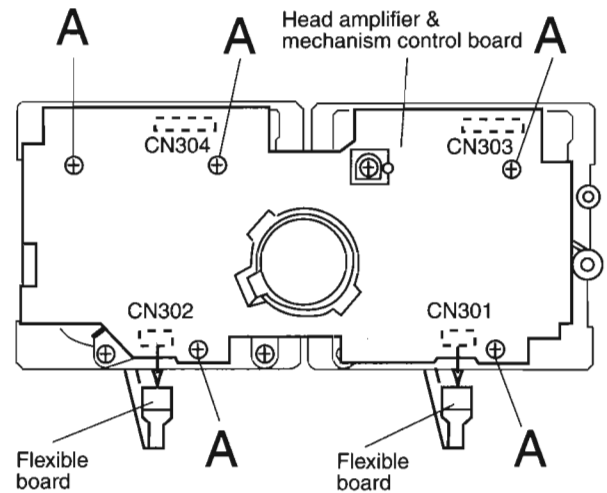

Fig.4
■ **Removing the head amp.and mechanism control P.C.board (See Fig. 4)**